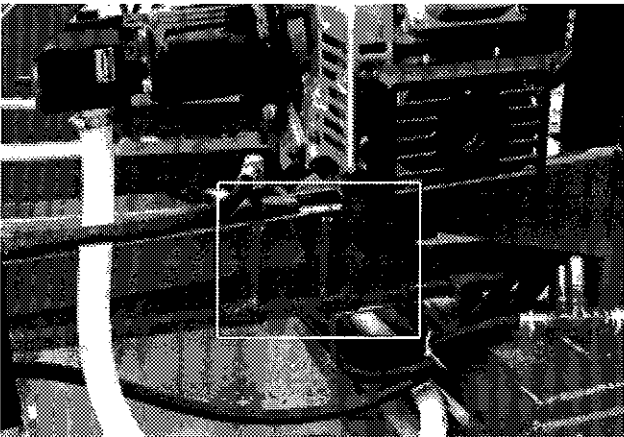
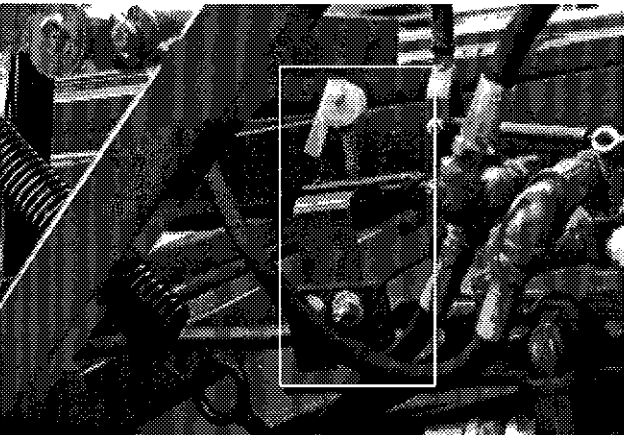

Figure 13
Figure 14
- 7) Check the operation of the bale pusher mechanism. It must operate freely and return to its starting position automatically. If necessary, adjust the end of stroke lug (Fig.13), the trigger mechanism (Fig.14) or the length of the actuator rod (Fig.15).